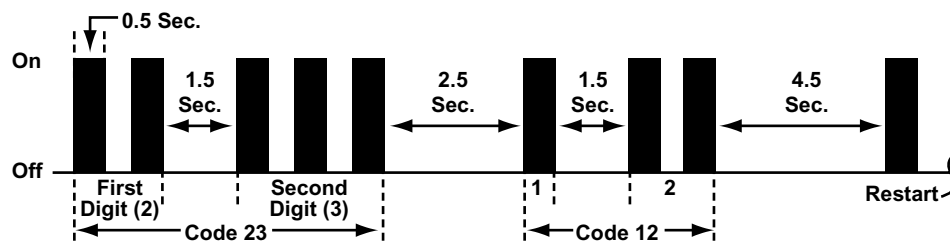

Figure 7-16 Engine Code Type 09
- Type 09 engine codes, see Figure 7-16 and Table 7-2